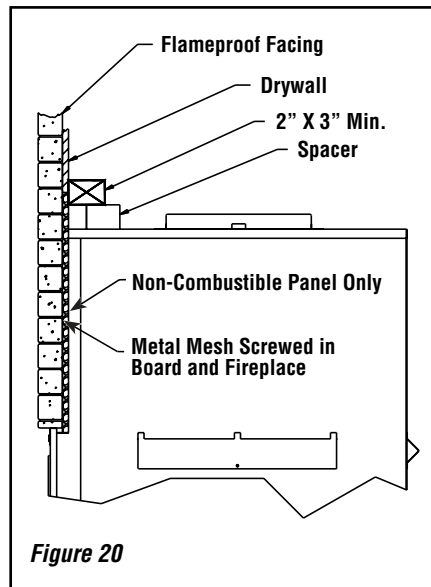

Figure 20
2. Non-combustible materials such as brick, stone or ceramic tile may project in front of and onto the fireplace facing (see **Figure 20**).